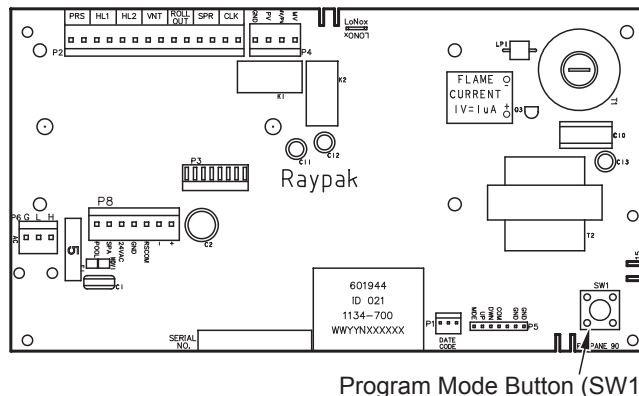

Figure 46. Thermostat Program Button (SW1)
1. Remove the four screws holding the control cover, and swing the panel down so the back side of the board is visible. Locate the Program Mode button (SW1). See **Figure 46**. Press and hold the button for 5-7 seconds until SET FACTORY DEFAULTS appears on the display. Release the program button.